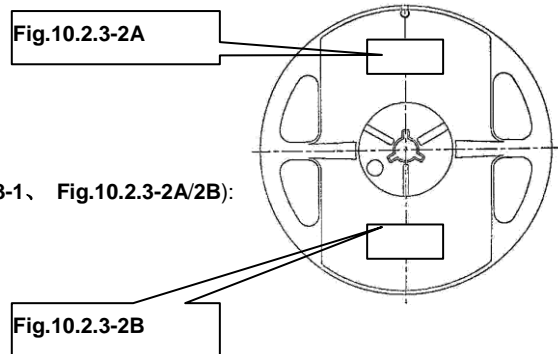

Fig.10.2.3-1
1) Marking label information on reels includes (see Fig.10.2.3-1, Fig.10.2.3-2A/2B):
- Inner box please refers to Fig.10.2.3-3 and Table 10.2.3-1